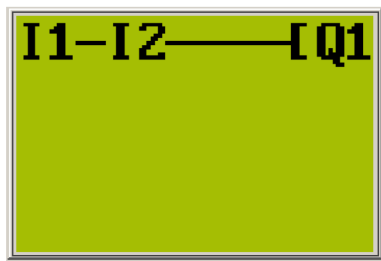
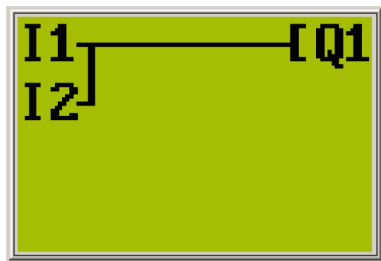

Figure 1-9. PLC ladder program.
Figure 1-12. Question 5 PLC ladder program.
- ☐ 6. Enter the program shown in Figure 1-9.
5. If you keep the connections shown in Figure 1-10, but change the program shown in Figure 1-9 for the following one (Figure 1-12):